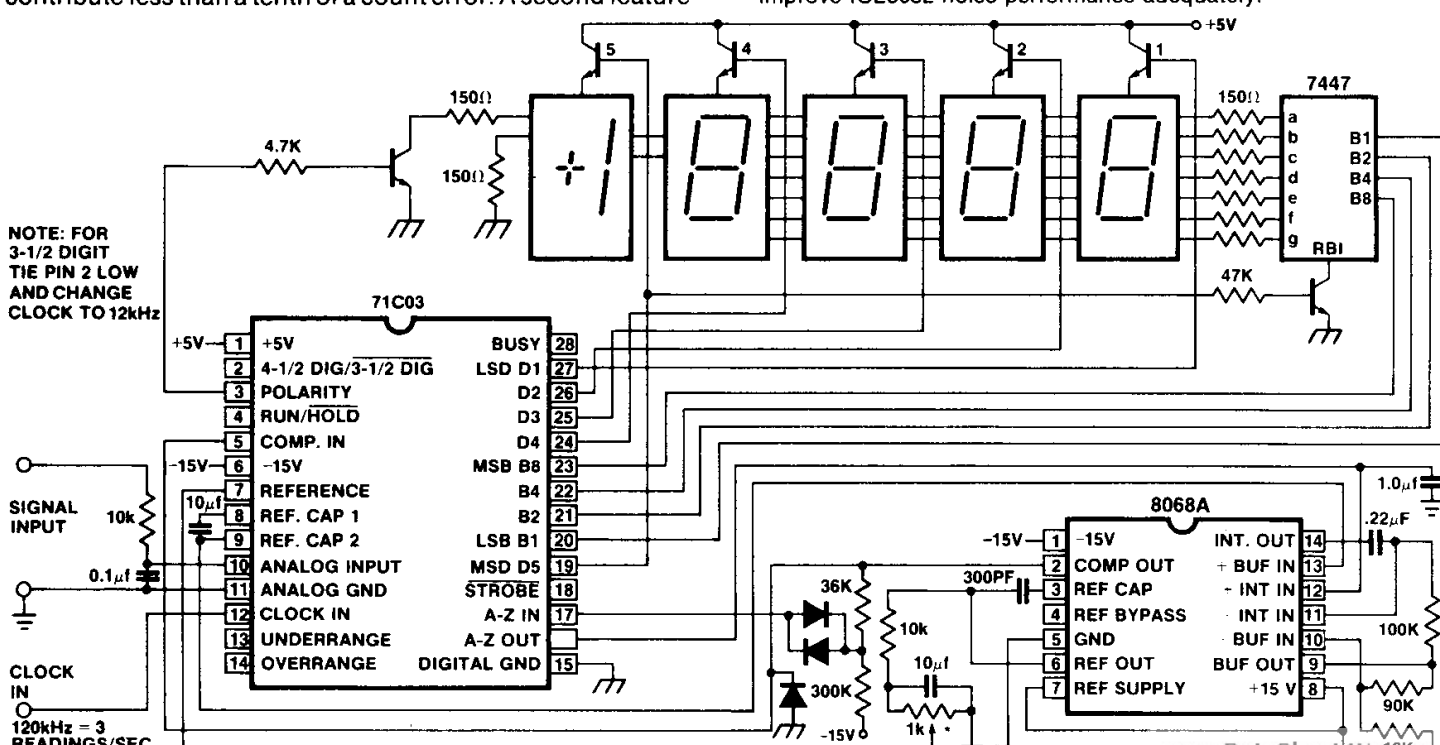

Figure 7: 8052A (8068A)/71C03A 4-1/2 Digit A-D Converter
**Note 1:** Tested in 3-1/2 digit (2,000 count) circuit shown in Fig. 7, clock frequency 12kHz. Pin 2 71C03 connected to Gnd.**Note 2:** Tested in 4-1/2 digit (20,000 count) circuit shown in Fig. 7, clock frequency 120kHz. Pin 2 71C03A open.**Note 3:** Tested with a low dielectric absorption integrating capacitor. See Component Selection Section.**Note 4:** The temperature range can be extended to +70°C and beyond as long as the auto-zero and reference capacitors are increased to absorb the higher leakage of the 8068.
Figure 7 shows the complete circuit for a  $\pm 4\frac{1}{2}$  digit ( $\pm 200.0\text{mV}$  full scale) A/D with LED readout using the internal reference of the 8068/52. If an external reference is used, the reference supply (pin 7) should be connected to ground and the 300pF reference cap deleted. The circuit also shows a typical R-C input filter. Depending on the application, the time-constant of this filter can be made faster, slower, or the filter deleted completely. The 1/2 digit LED is driven from the 7 segment decoder, with a zero reading blanked by connecting a D5 signal to RBI input of the decoder.